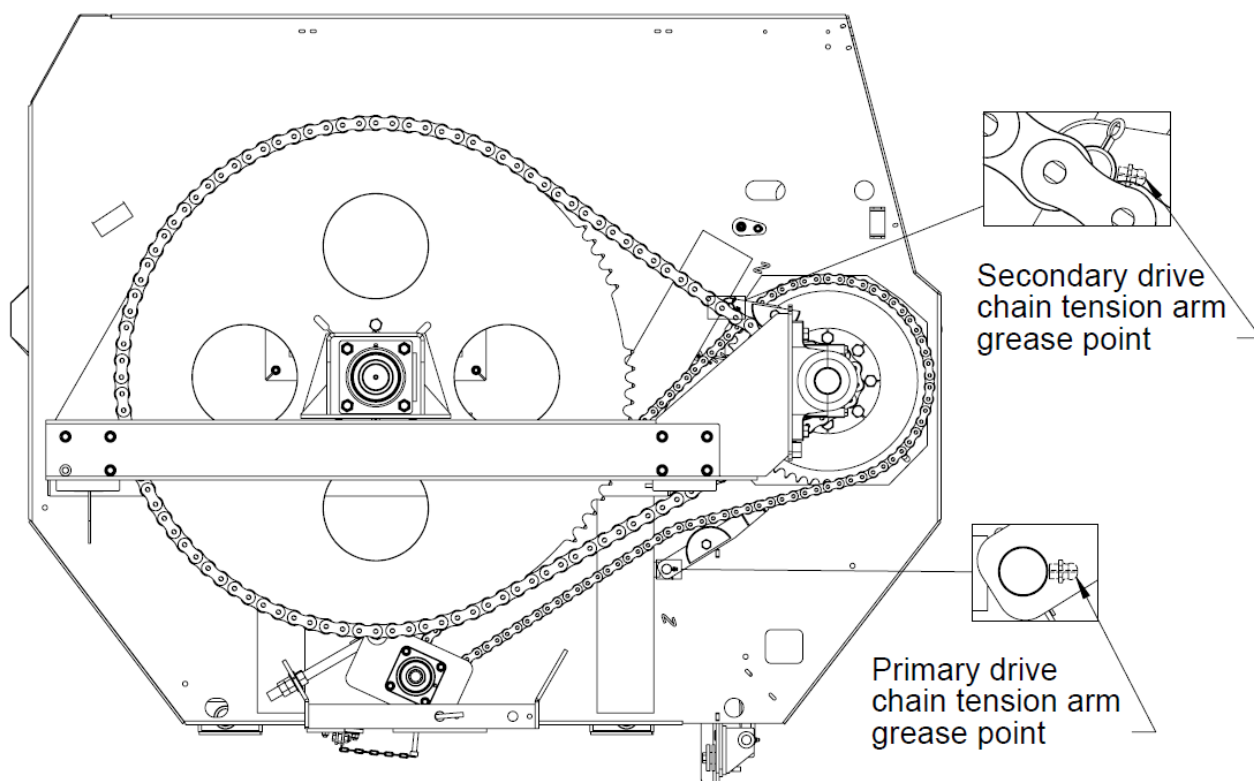

Figure 14: Tension arm grease points
- c. 2 grease fittings, 1 on the secondary chain tension arm and 1 on the primary chain tension arm (see figure 14)